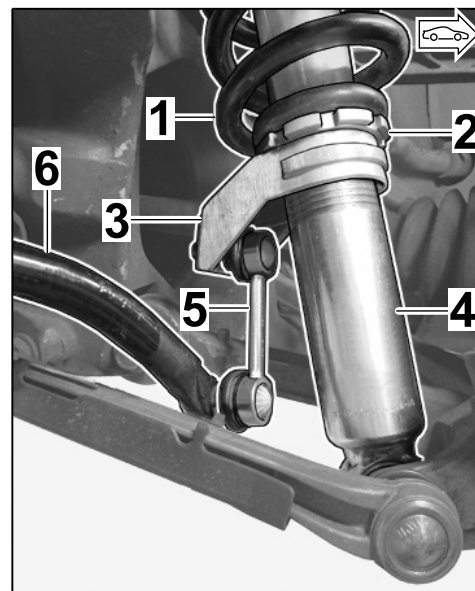

Figure 11
3.6.3 Fit new suspension/stabilizer as shown in Figure 11 (⇒ Figure 11).